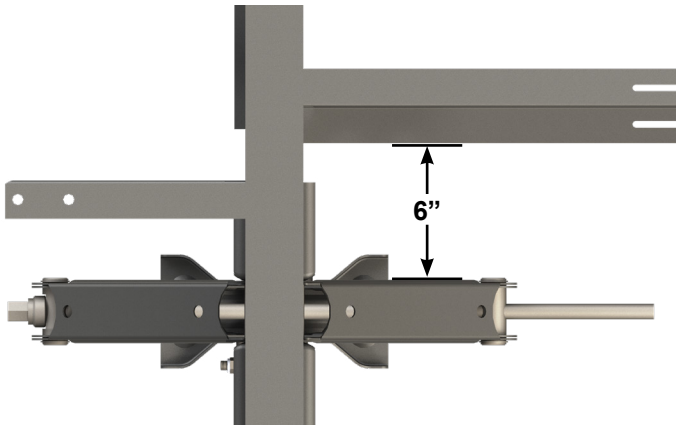

Fig.4
2. Under front half of chassis, locate a cross-member or center compartment with a steel floor from 6"- 18" from front of front jacks (Fig.4).